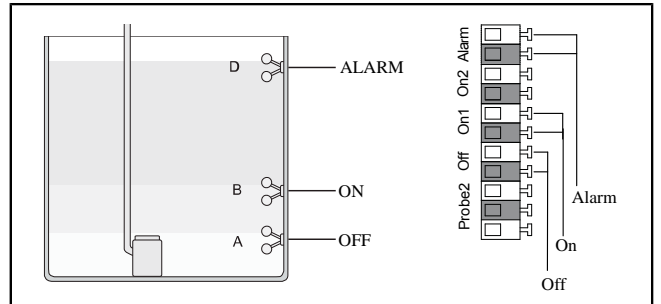
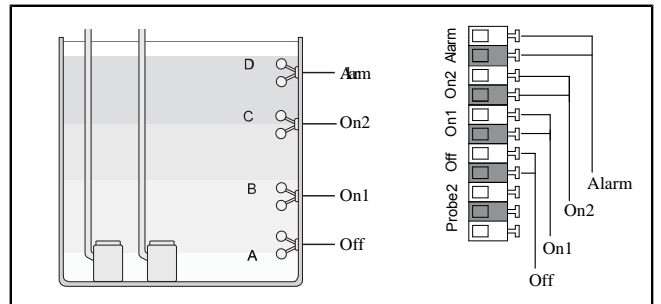

Fig. 3: Mono float switch (non-ATEX)
Fig. 4: Duo float switch (non-ATEX)
- ▶ Pull out blind plugs (1).
- ▶ Connect the cable ends of the float switches to the terminals shown. (see "Fig. 3: Mono float switch (non-ATEX)", page 32 + see "Fig. 4: Duo float switch (non-ATEX)", page 32)